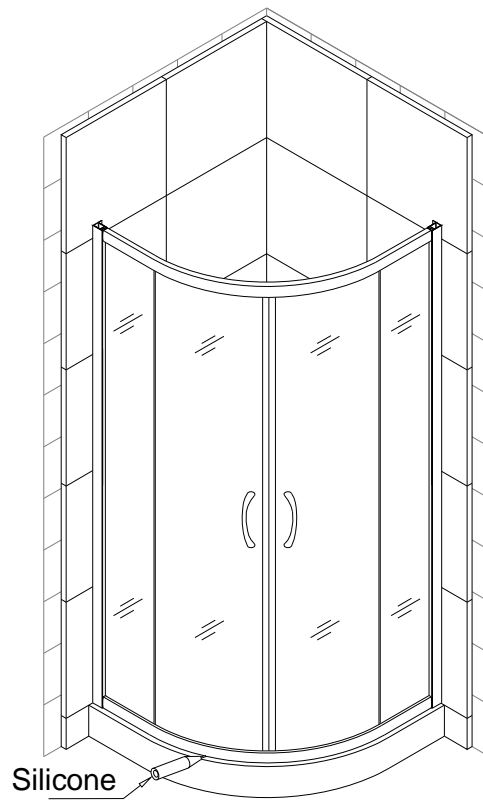

Fig 10
9. Seal with silicone caulk between Wall profile, Glass Profile, bottom rail and tray. See Fig 10 for details.